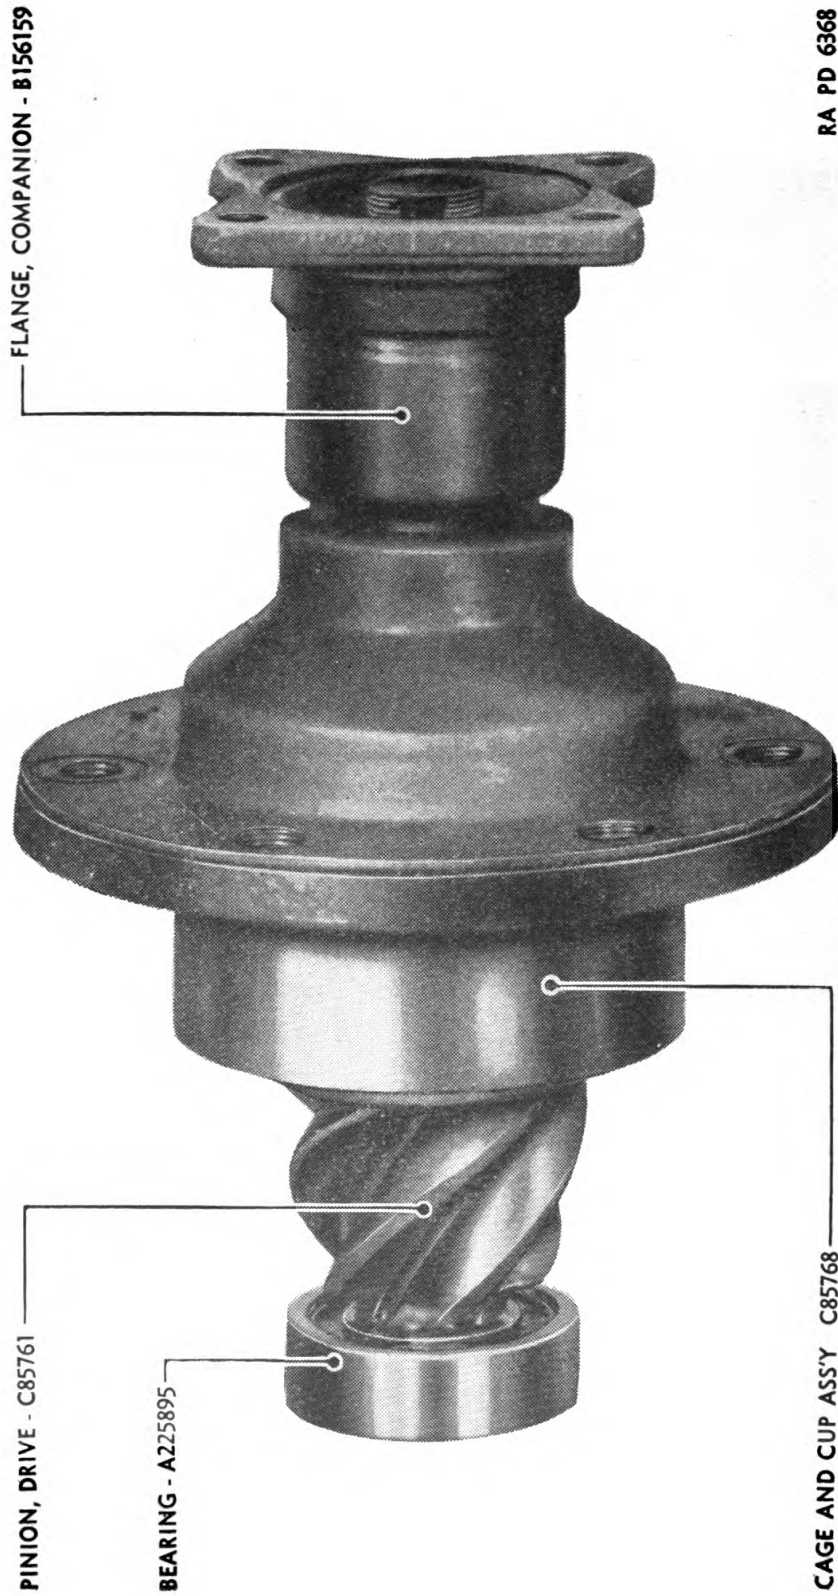
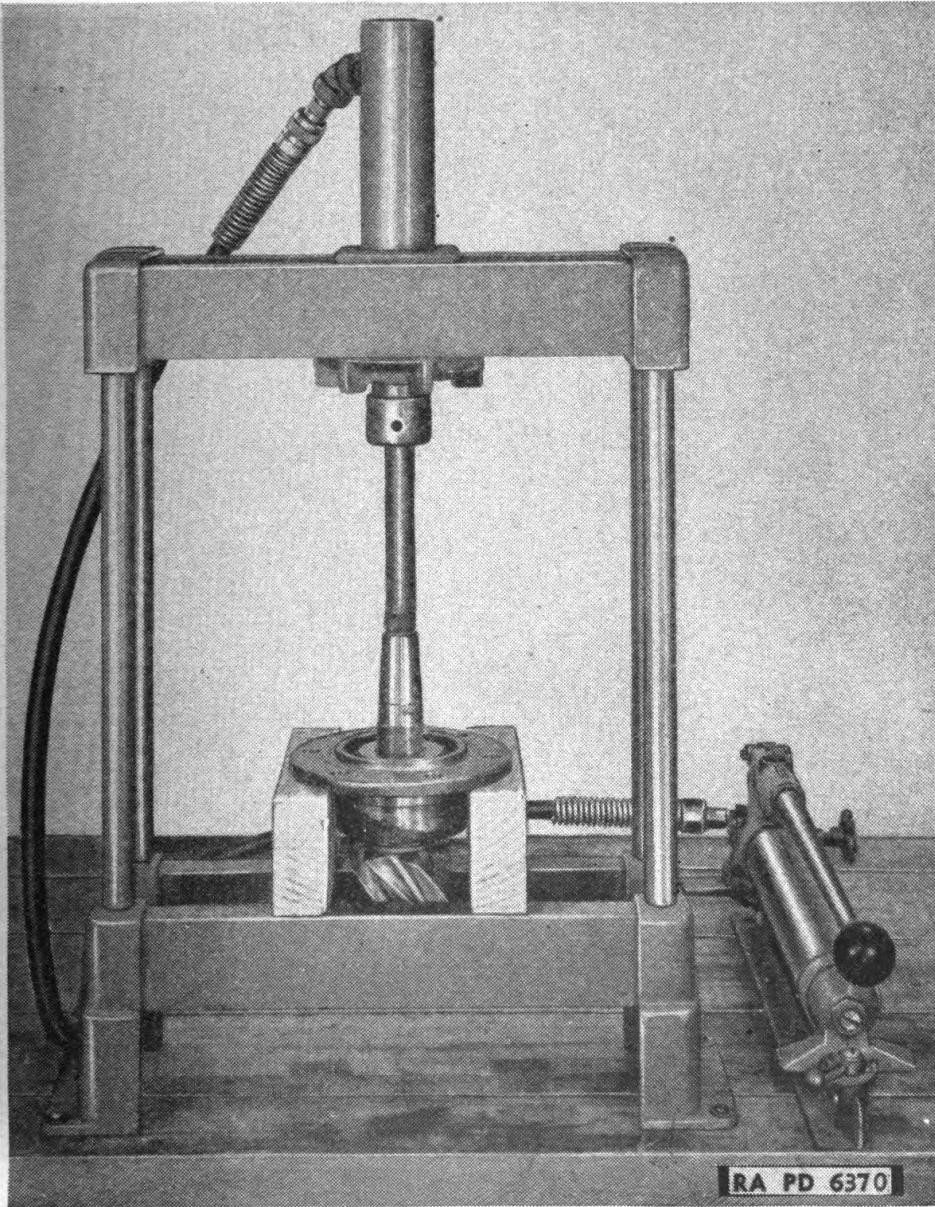

FIGURE 21.—Front axle drive pinion assembly.
FIGURE 23.—Pressing off front axle drive pinion bearing cage.
(1) Disconnect propeller shaft— $\frac{5}{8}$ -inch box wrench,  $\frac{9}{16}$ -inch open end wrench. Remove four  $\frac{7}{16}$ -inch bolts (A214369), nuts (BBBX1D), and lock washers (BECX1L), and disconnect front propeller shaft at drive pinion companion flange.
(2) Remove pinion shaft assembly— $\frac{3}{4}$ -inch socket wrench. Remove  $\frac{9}{16}$ -inch cap screws (A145900) and lock washers (BECX1N) holding pinion outer seal cover (C85763) and bearing cage to housing, and pull out pinion shaft assembly (fig. 21).
(3) Remove shaft nut—pliers or cotter pin puller,  $1\frac{1}{2}$ -inch socket wrench. Pull out pinion shaft cotter pin (BFAX1DL) and unscrew nut (A214932).
(4) Remove companion flange—press. Press off front axle companion flange (B156159, fig. 21) and key (A167690), and remove outer bearing cage cork (A174608).
(5) Remove bearing nuts and washers— $1\frac{1}{4}$ -inch open end wrench. Take off drive pinion outer bearing nut lock (A225902), lock ring (A159568), adjusting nut (A225901), and adjusting nut washer (A225903).
(6) Remove bearing cage—press, wood blocks. Press off outer bearing cage assembly (C85768) and taper bearing cone and rollers assembly (A226004) from shaft (fig. 23).